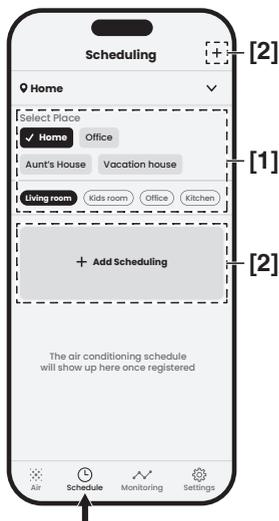

Fig. 1
1. Tap [1] [Select Place] on the screen for select the device area. Fig. 1
2. Tap [2] [+ Add Scheduling] on the screen or tap [2] “+” the plus symbol at the top right corner. Fig. 1